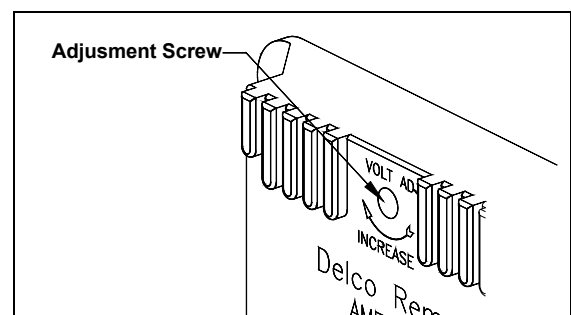

FIGURE 30: ADJUSTING REGULATOR VOLTAGE SETTING
4. If not, the desired setting can be obtained by removing the plug from the voltage regulator cover and slightly turning the adjusting screw inside the regulator. Turn the adjusting screw clockwise to increase the voltage setting or counterclockwise to decrease it. See figure 30 for details.
Resistor R2 = Turn voltage adjustment screw (identified in figure 30) with ohmmeter connecting each way. Reading should change as slotted screw is turned. If not, replace R2.